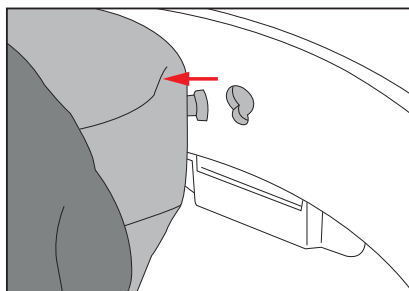

Figure 6.1
- Starting with the front of the seat, lift up on a post and pull out. **See Figure 6.1.**